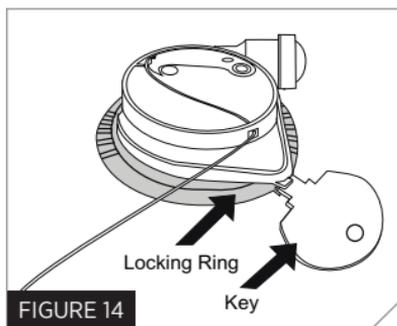

FIGURE 14
3. Insert your inflator removal key between the inflator cap's yellow piece and its black locking ring – at the spot that looks like the point of a triangle (Fig. 14)